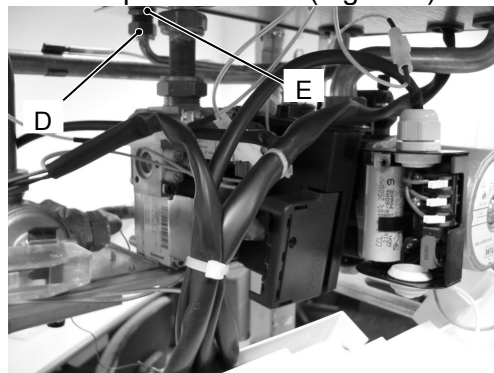

Figure 3
- 2) Completely unscrew the connection D and the lock-nut E and remove the expansion vessel from the top of the boiler (Figure 3).